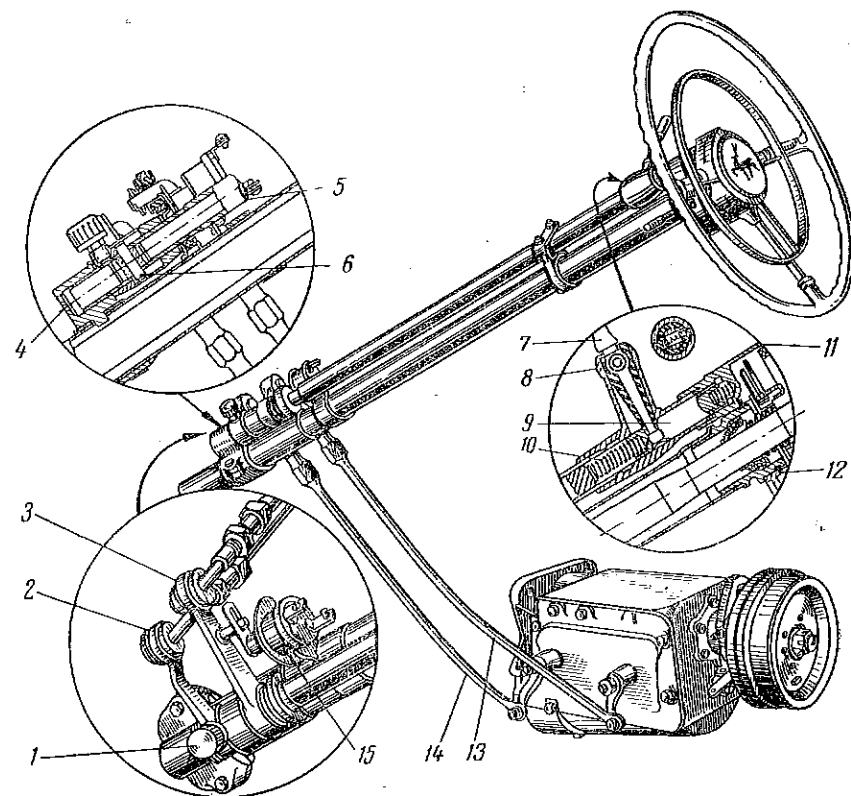

Fig. 20. Gear Shift:
1. Engage the 3rd speed gear and make sure gear shift lever 7 (Fig. 20) is in the horizontal position. If necessary, change the length of rod 14 by rotating its end.